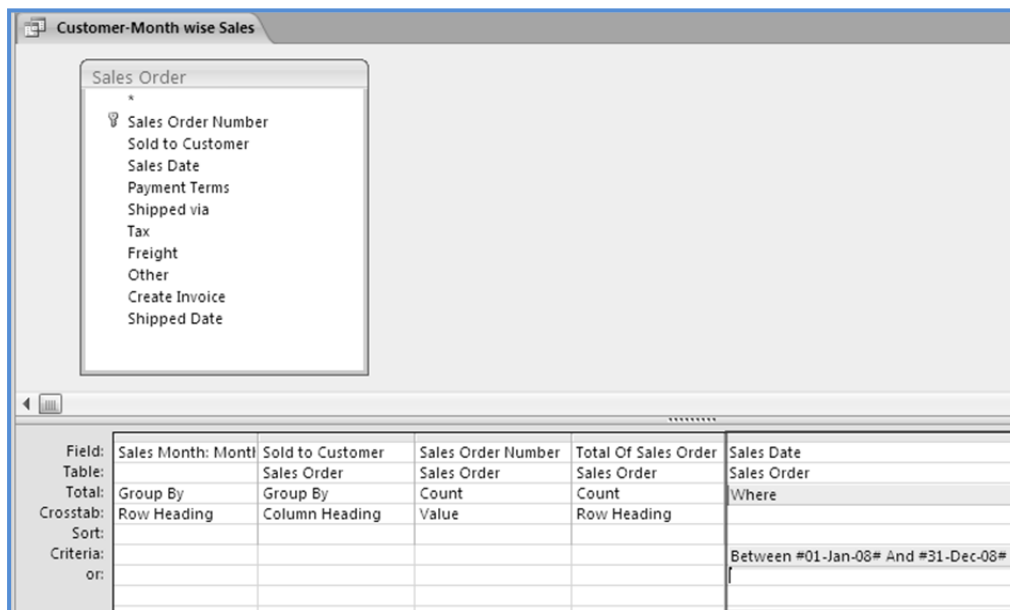

Fig. 1.2.48: Provide a criteria to Sales Date column
1. Double-click the column *Sales Date* from table *Sales Order* such that it appears in **Field** tab. Change the value of **Total** tab to *Where* and add the expression **Between 4/1/2011 AND 3/31/2012** to the **Criteria** tab as shown in Fig. 1.2.48.